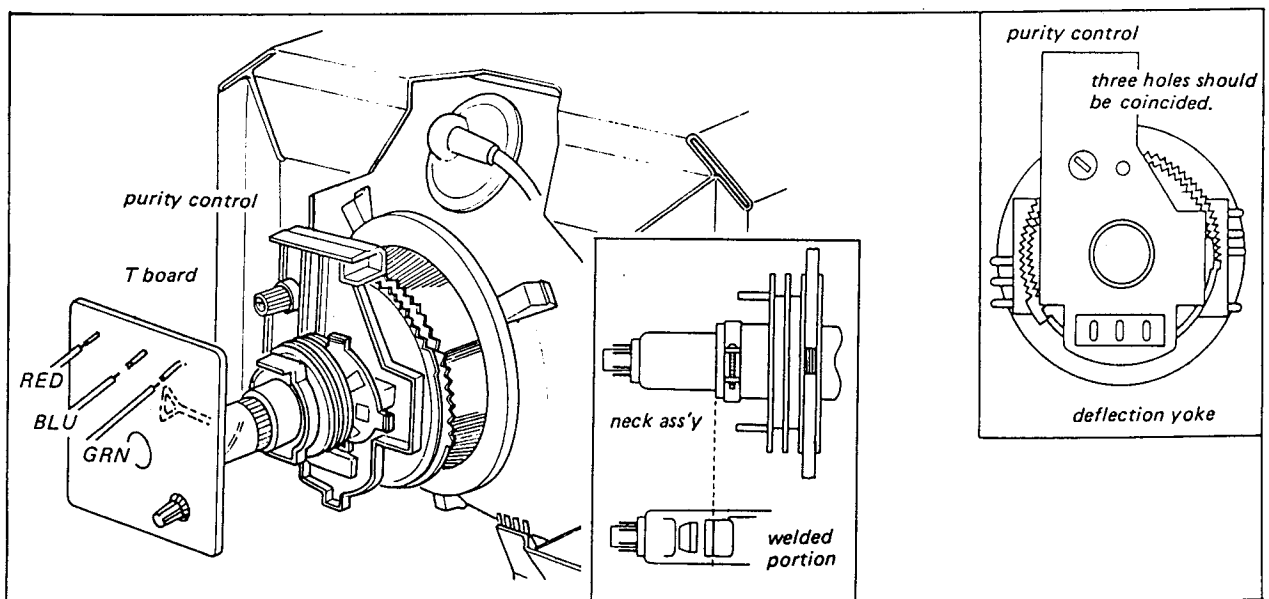

Fig. 3-1. Beam landing adjustment setup
Referring to Fig. 3-1, perform the procedures in this order.
Procedure: (Refer to Fig. 3-1)
3. Disconnect BLU and GRN leads on the T board as shown in Fig. 3-1.
8. Tighten the deflection yoke fixing screw as shown in Fig. 3-1.